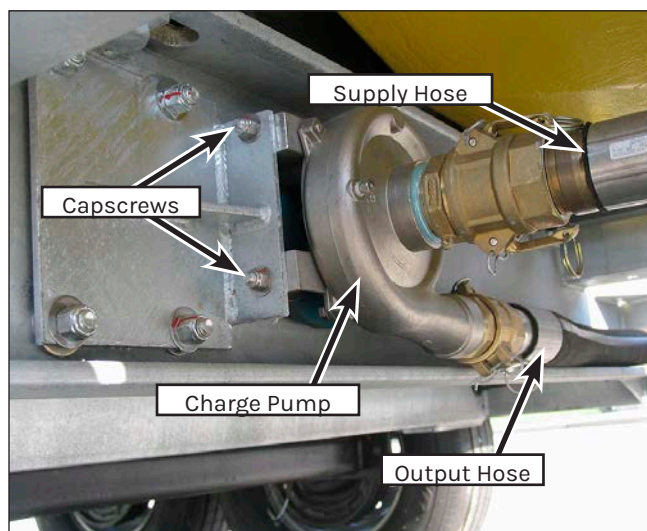

Figure 145: Charge Pump Removal.
7. Remove the output hose (Figure 145) and the supply hose from the charge pump.
8. Remove the two capscrews (Figure 145), nuts and washers that secure the charge pump to the mounting bracket. Remove the charge pump.
1. Place the charge pump into position on the mounting bracket. Install the two capscrews (Figure 145), nuts and washers that secure the charge pump to the bracket. Tighten the capscrews to 9 ft. lb (12 N·m).